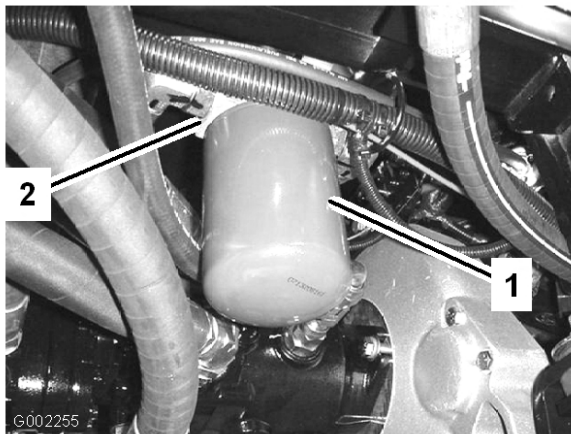

Figure 58
2. Clean the area around the filter mounting area (Figure 58).
4. Remove the filter (Figure 58).
5. Lubricate the new filter gasket (Figure 58).